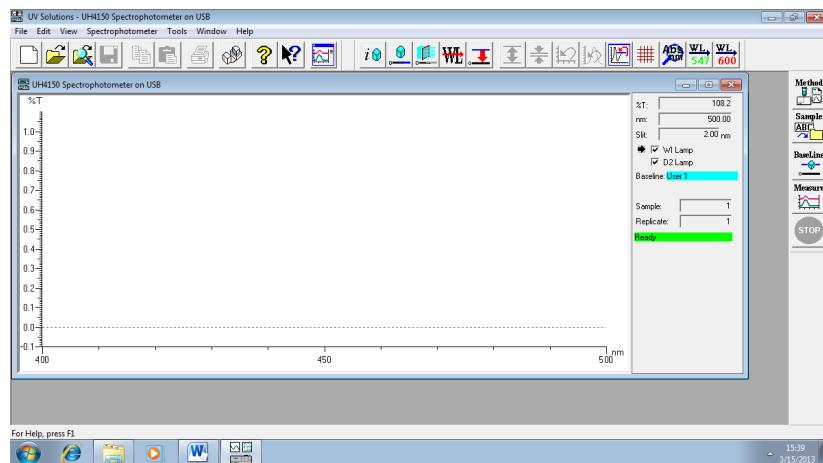

Fig. 1-32
- (7) When the initialization is completed, a window as in Fig. 1-32 will appear.